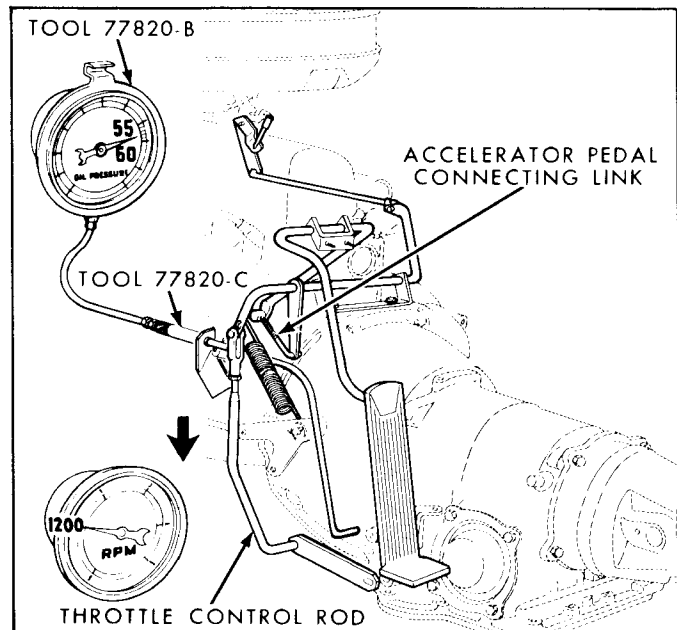

Fig. 7A-4—Throttle Linkage—(60C-4404)
6. With the engine stopped, disconnect the throttle control rod at its clevis end. Refer to figure 7A-4. Loosen the clevis locknut.
3. Install the pressure gauge, Tool 77820-B, to the pressure tube with the adapter, Tool 77820-C. Install the adapter **finger-tight**. See figure 7A-4.